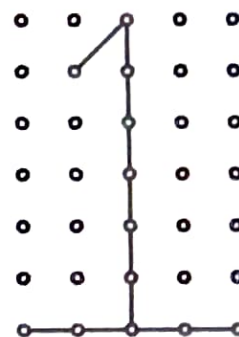

Fig. 2.9.3 : Displaying 1 on LCD display of a 5×7 dot matrix
- Displaying data in hand help embedded systems should be considering an important aspect, that is the power consumption. LCD displays have very low power consumption compared to the seven segment displays (SSD) and hence are widely used. Another advantage of LCD is that, it uses a 5×7 dot matrix to display, hence better readability is possible. For example to display '1' of LCD as shown in Fig. 2.9.3.